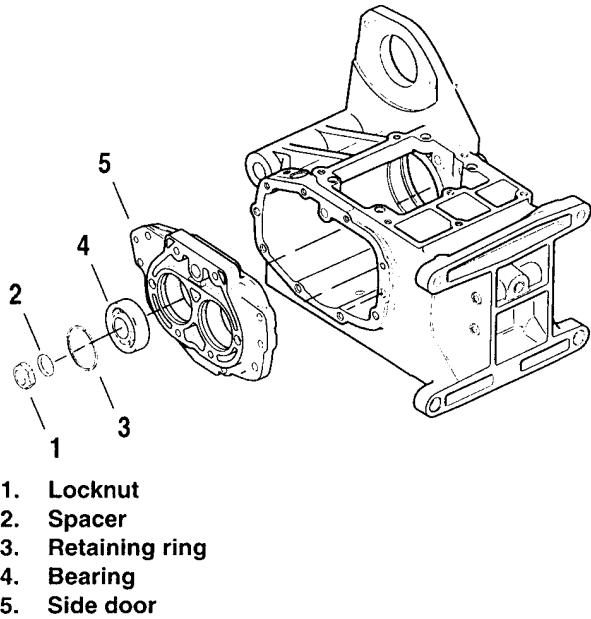

Figure 7-24. Side Door Bearings
- See Figure 7-24. Inspect the bearings (4) in the side door (5). If bearings are pitted or grooved or feel rough when turned or have any end play, replace the bearings.
- See Figure 7-24. Remove the retaining rings (3) and press the bearings out of the side door.